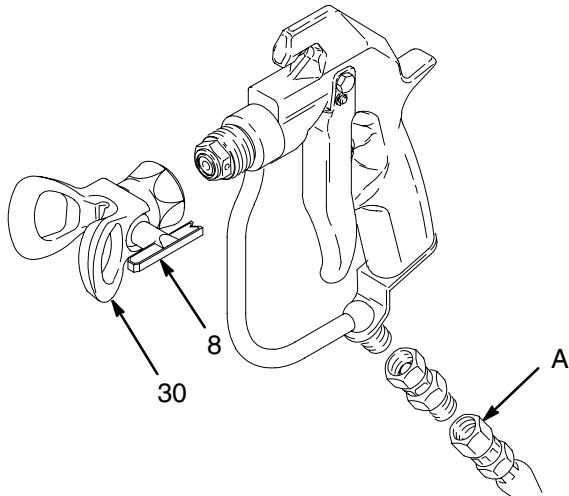

Fig. 2 _____ 04731
1. Connect an electrically conductive fluid hose (A) to the gun inlet. See Fig. 2.
4. Install the SwitchTip (8) and tip guard (30). Follow the instructions in the manual, supplied. See Fig. 2.